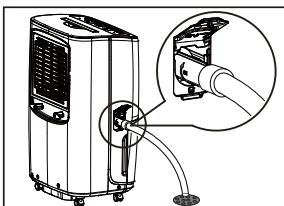

fig. 5
- Direct the hose toward the drain, making sure that there are no kinks that will stop the water flowing. (fig.5)